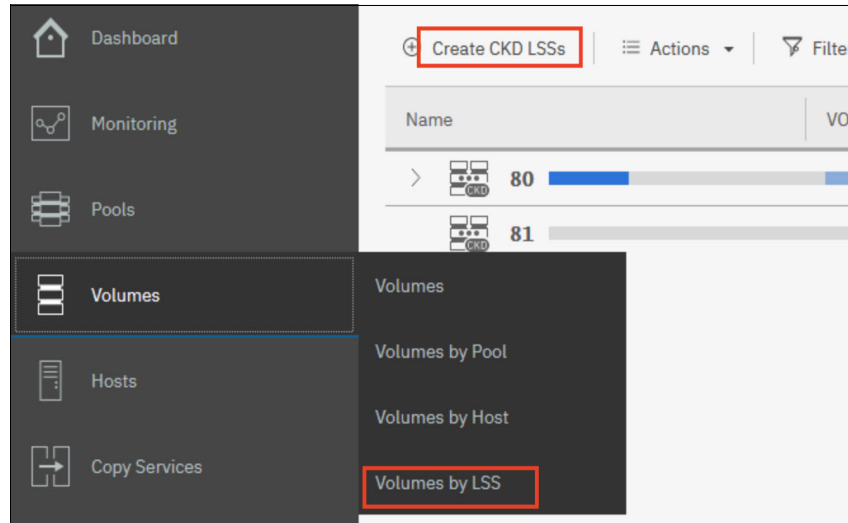

Figure 9-73 Creating CKD volumes by LSSs
3. Click the **Create CKD LSSs** tab from the Volumes by LSS window, as shown in Figure 9-73.